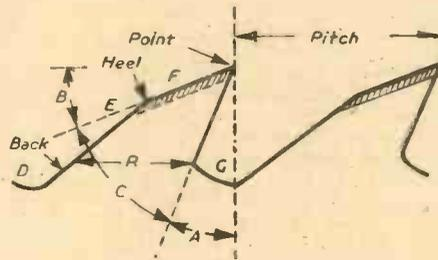

Fig. 2.—Profile of circular-saw teeth.
Each individual saw-tooth has various angles, and one of the most important of these is the "hook" marked "A" in Fig. 2. Within limits the greater the angle of hook the faster the cutting, but for normal purposes the hook must not exceed 25 deg. The angle between the point of the tooth and the heel (B) is the "clearance angle," and this should be 20 deg. Between the heel and the base of the hook is the "sharpness angle" (C).
Other terms applied to particular parts of the saw-tooth may also be recognised by reference to Fig. 2. The "back" is the long slope (D), the base of the clearance angle is the "heel" (E), the "top" is the short sloping edge (F), which in length is